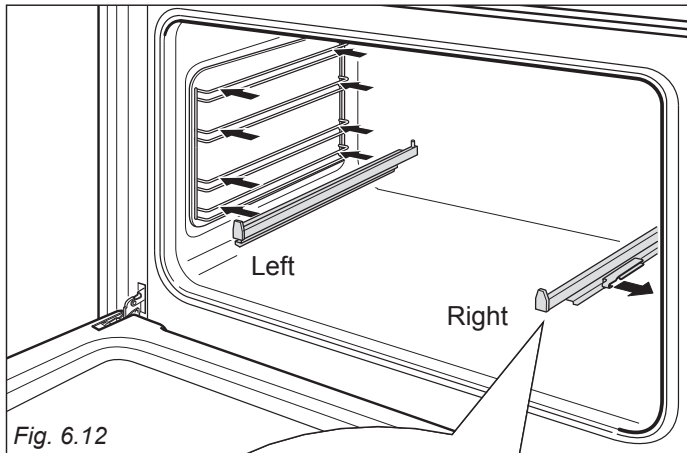

Fig. 6.12
- Fit the side runner frames into the holes on the side walls inside the oven. (fig. 6.12).
- Fit the sliding shelf supports onto the top wire of a rack and press (fig. 6.12). You will hear a click as the safety locks clip over the wire.